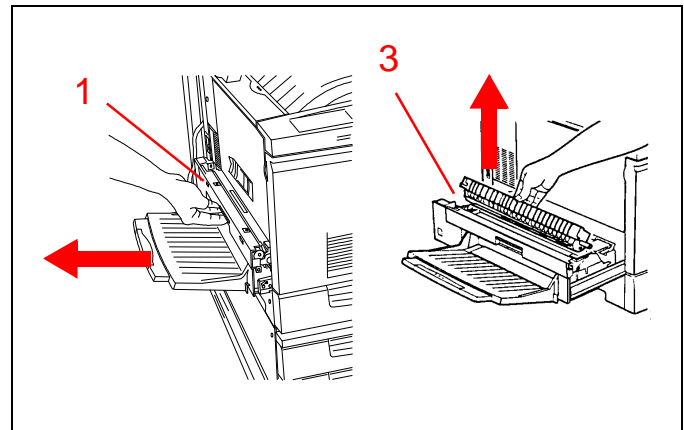

Figure 33
1. See Figure 33. Pull out the lower left side unit as far as it will go.